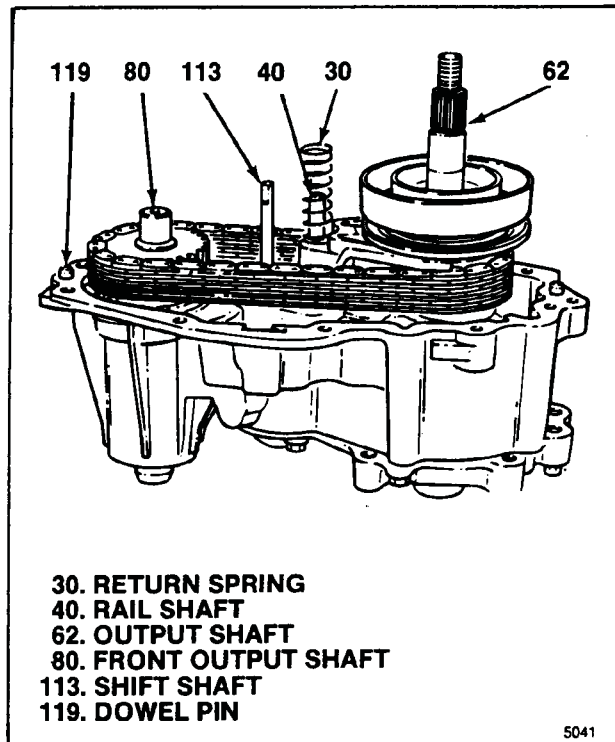

Figure 5-21. Parts To Be Aligned With Cover
- d. Install cover assembly (22) on transfer case (121). All of the following alignment conditions must be met for the cover assembly to seat on transfer case properly (see figure 5-21):
1. Cover holes with transfer case dowel pins (119).
3. Blind hole in cover with rail shaft (40). Make sure spring (30) is not cocked. On electric shift, check with pen light through cover hole for speed sensor (13).
4. On electric shift units, cover bore with shift shaft (113).